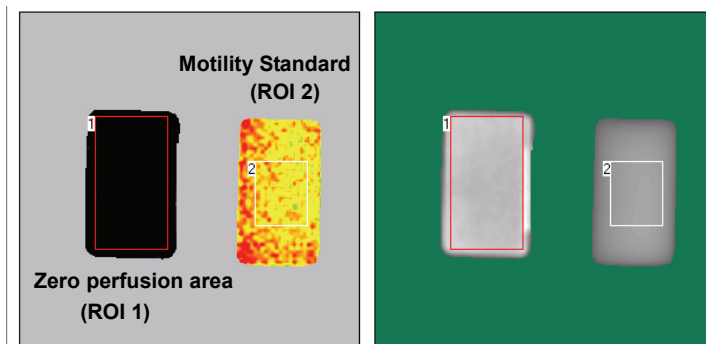

Figure 2 Regions of Interest
7. When the scanning is finished, two areas will be visible, one highly perfused area, and another with zero perfusion. Adjust the intensity threshold value so that both areas become clearly separated from the background, see Figure 2.
The Motility Standard ROI should cover only the mid section of the area, as shown in Figure 2.